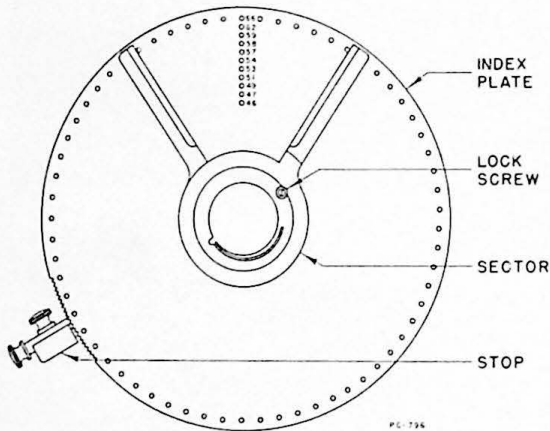

Figure 35
The Sector. Index plates on all CINCINNATI Dividing Heads, Spiral Milling Heads and similar equipment have a sector for convenience in indexing. Fig. 35 shows the sector set for 220 divisions, which requires that, for each division, the index pin move over a series of twelve holes (spaces) in the 66-hole circle. The hole in which the index pointer rests, should not be counted when setting the sector. This factor is sometimes the source of a mistake in setting up dividing head work, and must not be overlooked.
Index Plate Stop. The index plate stop, Fig. 35, engages notches in the index plate, preventing it from rotating. If the Head is connected to the driving mechanism for a spiral or helical milling job, the index plate, sector, and crank rotate as a unit. For such a set-up, *the stop must be disengaged from the plate.* In other words, the stop should be engaged only when the Dividing Head is not connected to the power drive, as when milling spur
10. Withdraw the index plate stop (Fig. 35). The index plate must be free to revolve with the index pin. *Note*—The stop engaging the notches in the rim of the index plate should be engaged only when the Dividing Head is used without the driving mechanism.